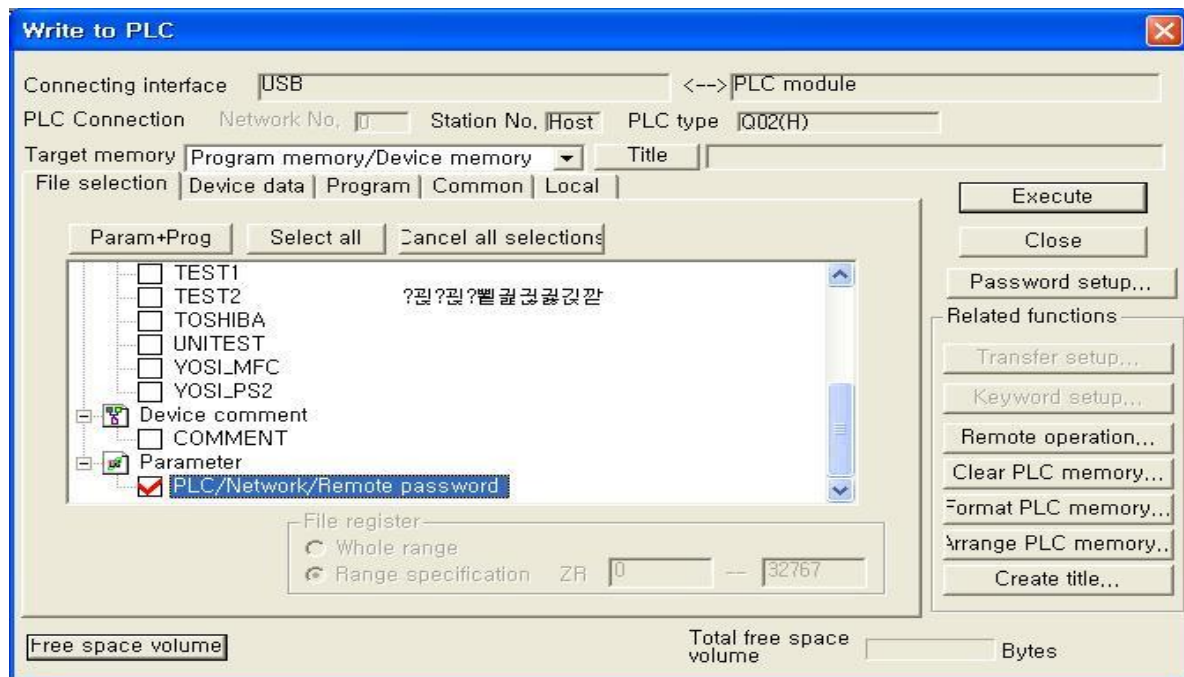

Fig. 5.4 How to download network parameters to PLC
- 2) Click Online → Write to PLC on menu to open a window as shown in Fig. 5.4.
Select PLC/Network/Remote password, the submenu of the Parameter positioned at lower end of Fig. 5.4, and click Execute button